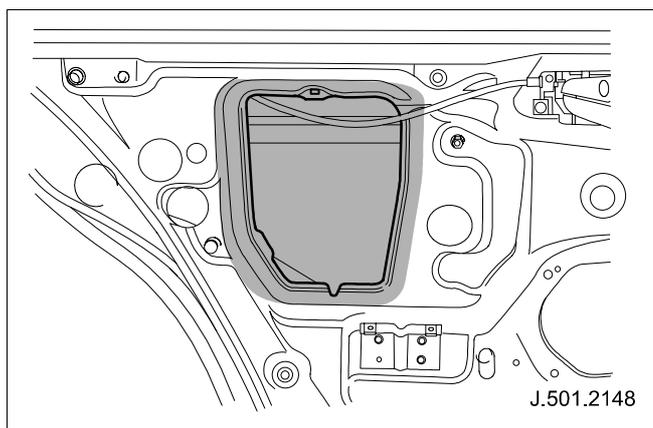

Fig. 13
- 5 Water shedder. (See Fig. 13)